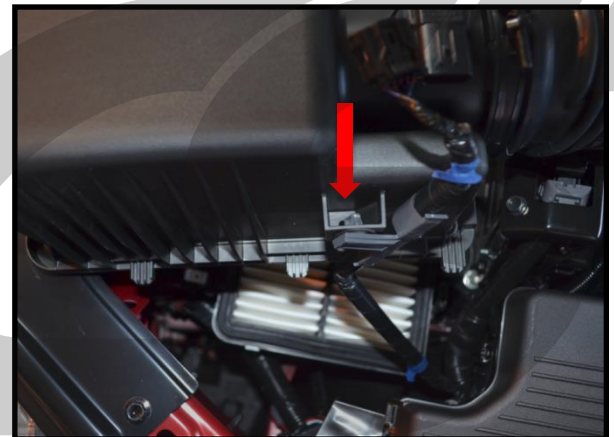

Figure 1f
- f) Disconnect the MAF wiring and pull up on air box lid and remove it from the car (Figure 1f).
- f) **Disconnect the MAF wiring and pull up on air box lid and remove it from the car** (Figure 1f). You will need needle nose pliers to compress the sides of the wiring harness tie down.